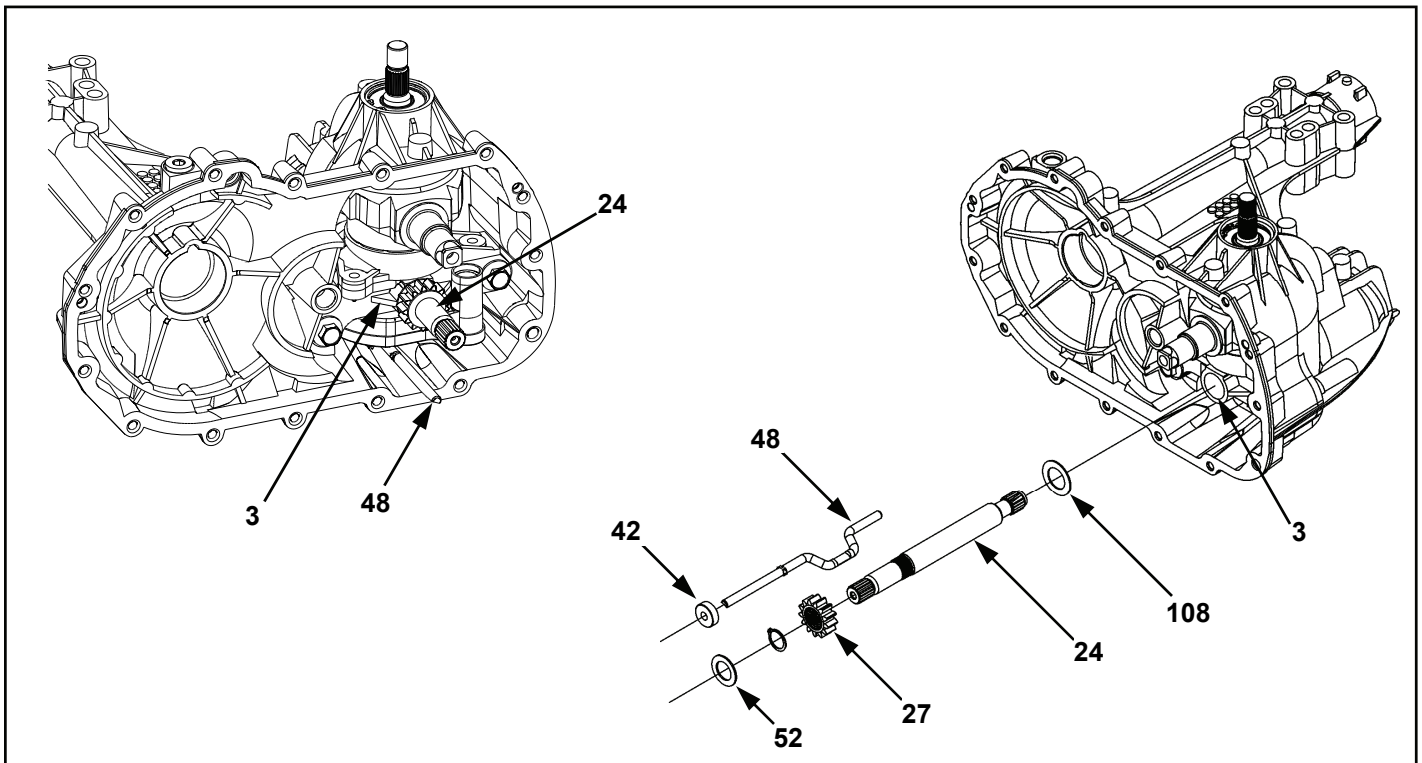

Figure 13. Motor Shaft & Bypass Rod Assemblies
Refer to Figure 13.
4. Install the check plugs (23 & 75), in their correct location, into the center section (3). Tighten the check plugs according to Table 5.
5. Install the bypass spring (43) into the filter base (46).
6. Install the deflector (107) into the underside of the filter (45).
7. Install the bypass actuator (47) into the underside of the deflector (107).
8. Hold the stem of the bypass actuator (47) from the top of the filter (45) to retain the deflector (107) and bypass actuator (47) in place when snapping the filter (45) onto the filter base (46). NOTE: Filter installation is best accomplished by using the spacer (65, Page 32) as an assembly tool over each of the (4) snaps while lightly tapping with a rubber mallet. Excessive force will result in damage to the plastic filter components.
9. **(See Figures 13 & 23)** Install the motor shaft (24), pinion gear (27) and flat washers (52 & 108) into the center section (3).
10. Assemble the motor block assembly (5) onto the motor shaft (24).